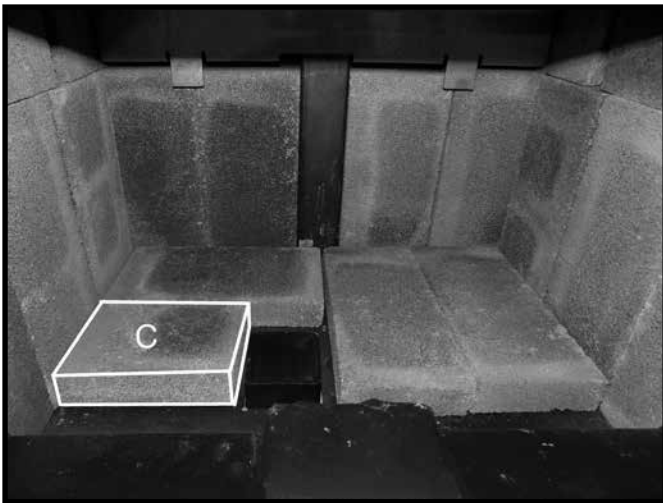

Figure 37: Fourth floor brick in place.
- Place the "C" firebrick so that it sits beside the ash dump, against the left-hand side wall and the "A" firebrick located directly behind the ash dump (Figure 37). on page 29